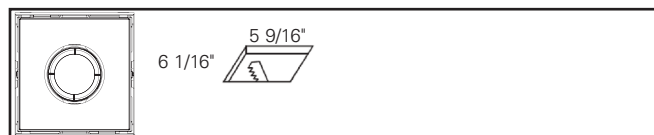

Figura 1.9.
- Una luz: 5 9/16 in X 6 1/16 in (Figura 1.9)